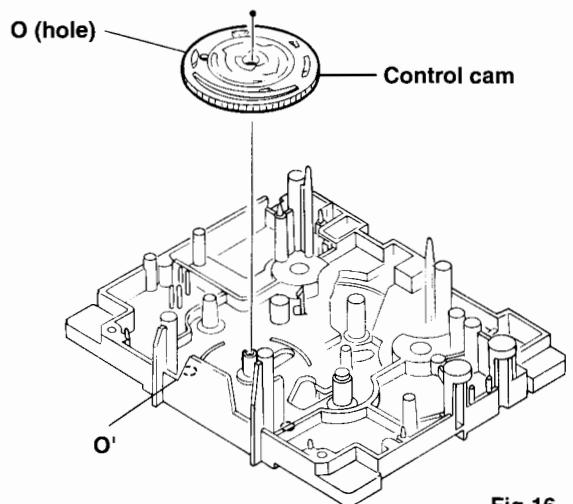
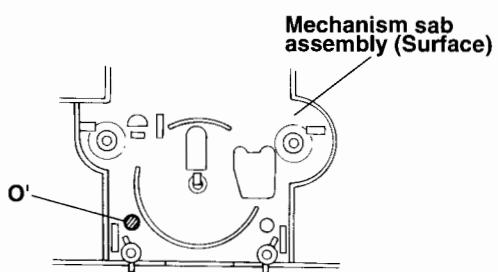

Fig.16
Fig.17
■ Reasseembling the Control Cam (See Fig.16,Fig17,Fig.18)